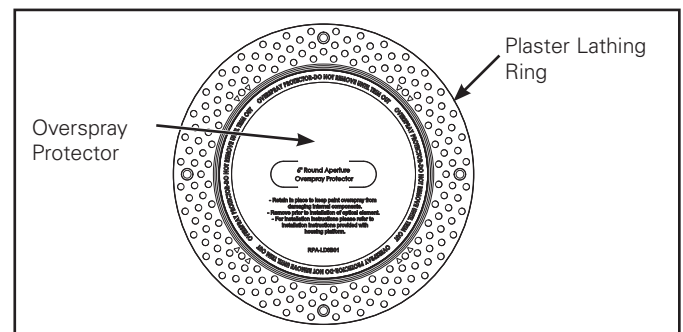

Figure 1.
1. Remove plaster ring from packaging and remove overspray protector (Figure 1) **DO NOT DISCARD**.